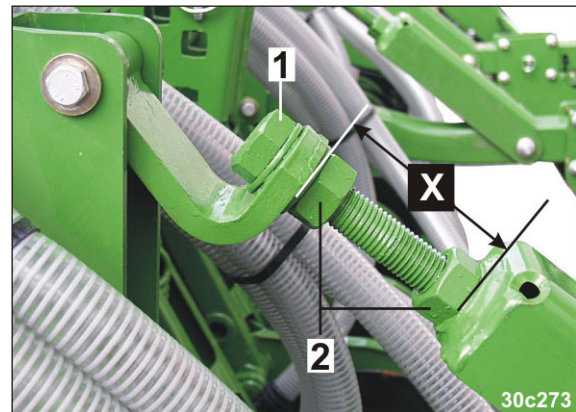

Fig. 147
The roller pressure is adjusted by changing the distance "X" (Fig. 147) on all segments with the screw (Fig. 147/1).
3. Release the two lock nuts (Fig. 147/2).
5. Firmly tighten counter nuts (Fig. 147/2).